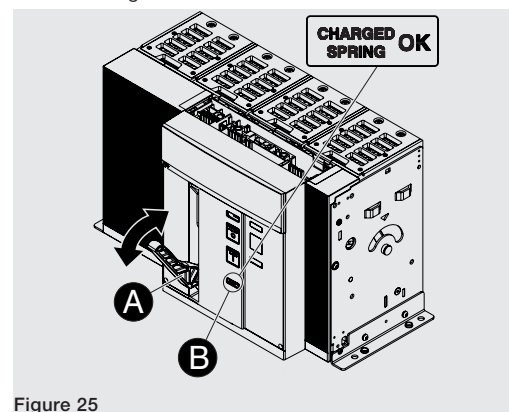

Figure 25
2. Charging the springs - Pull the lever [A] downwards several times until the springs charged signalling device [B] is "yellow - CHARGED SPRING" as indicated in Figure 25.